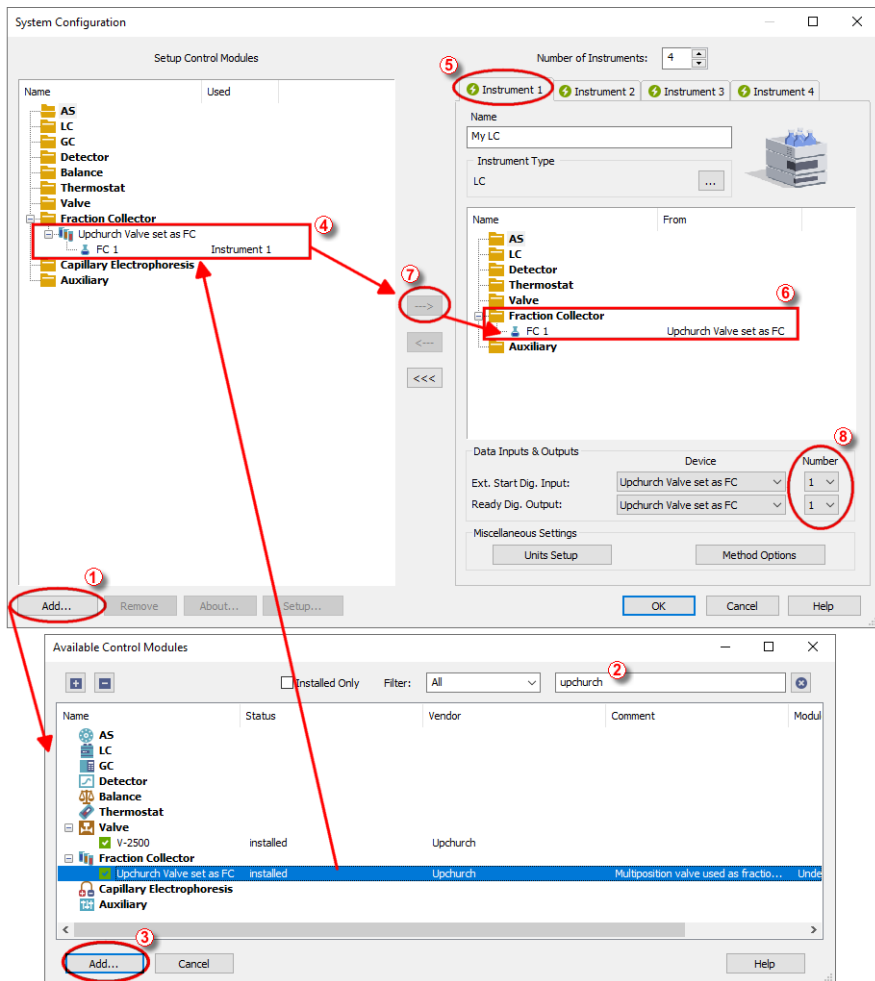

Fig 3: How to add FC by Upchurch Valve
- Press the **Add** button (1) on **Fig 3** on pg 4.) to invoke the **Available Control Modules** dialog.
- You can specify the search filter (2) to simplify the finding of the driver.
- Select the correct item and press the **Add** (③ on **Fig 3** on pg 4.) button. Each device with already created UNI profile should have its own item named accordingly in the **Available Control Modules** dialog.